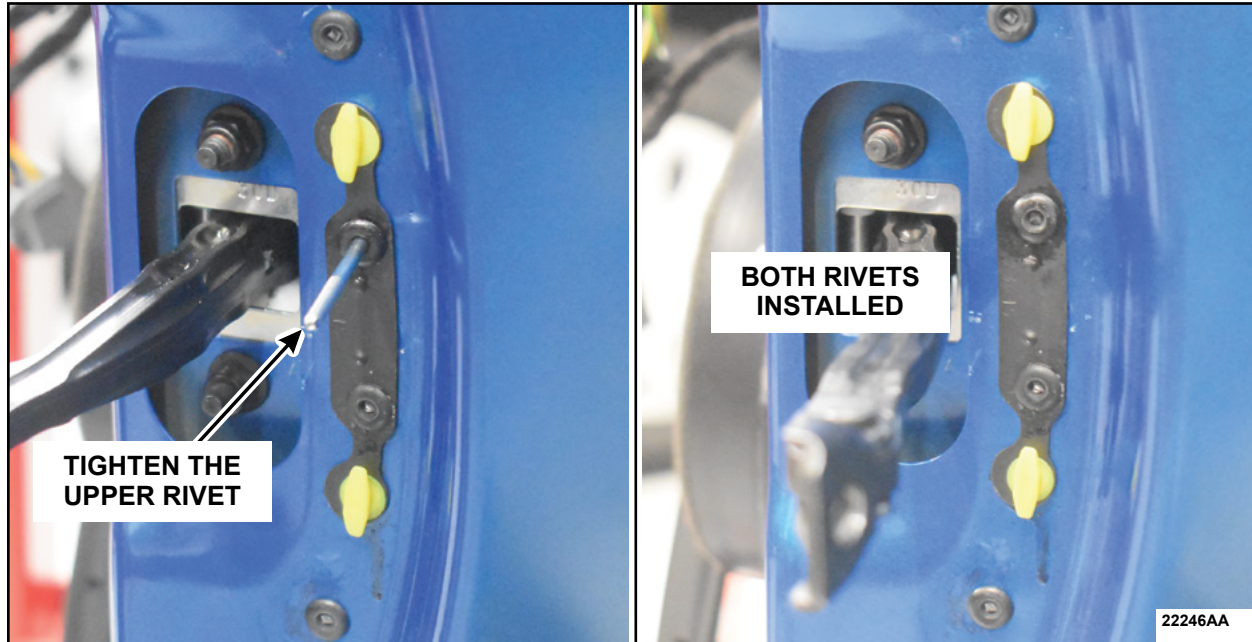

FIGURE 21
21. Tighten the upper rivet. See Figure 21.